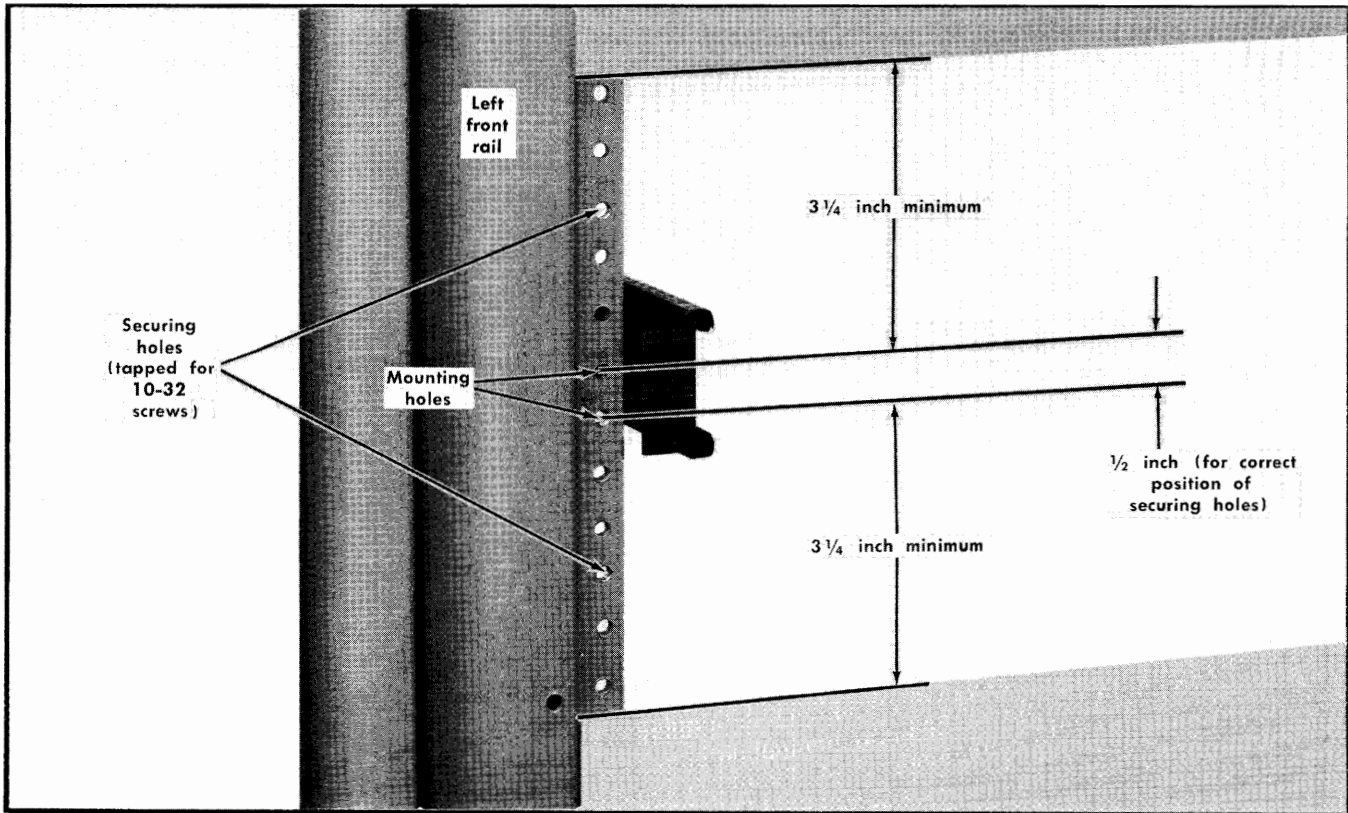

Fig. 6-6. Locating the mounting holes for the left stationary section. Same dimensions apply to right stationary section.
1. Select the proper front-rail mounting holes for the stationary section using the measurements shown in Fig. 6-6.